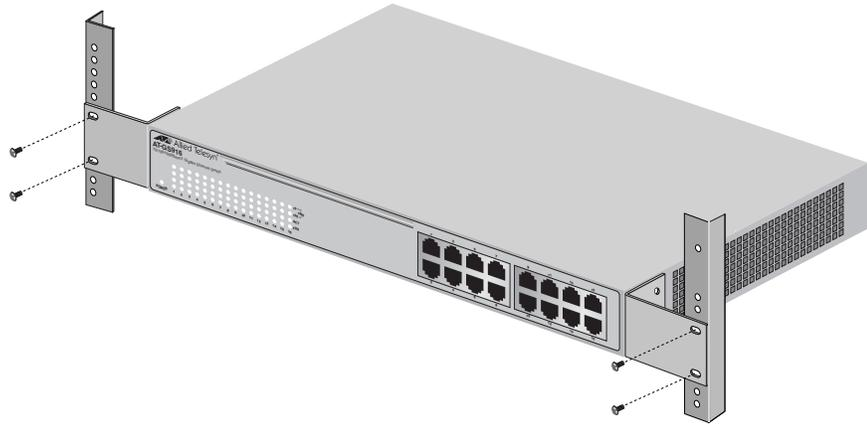

Figure 12 Rackmounting the Switch
5. Mount the switch in the 19-inch rack using the rackmounting screws (provided), as illustrated in Figure 12.